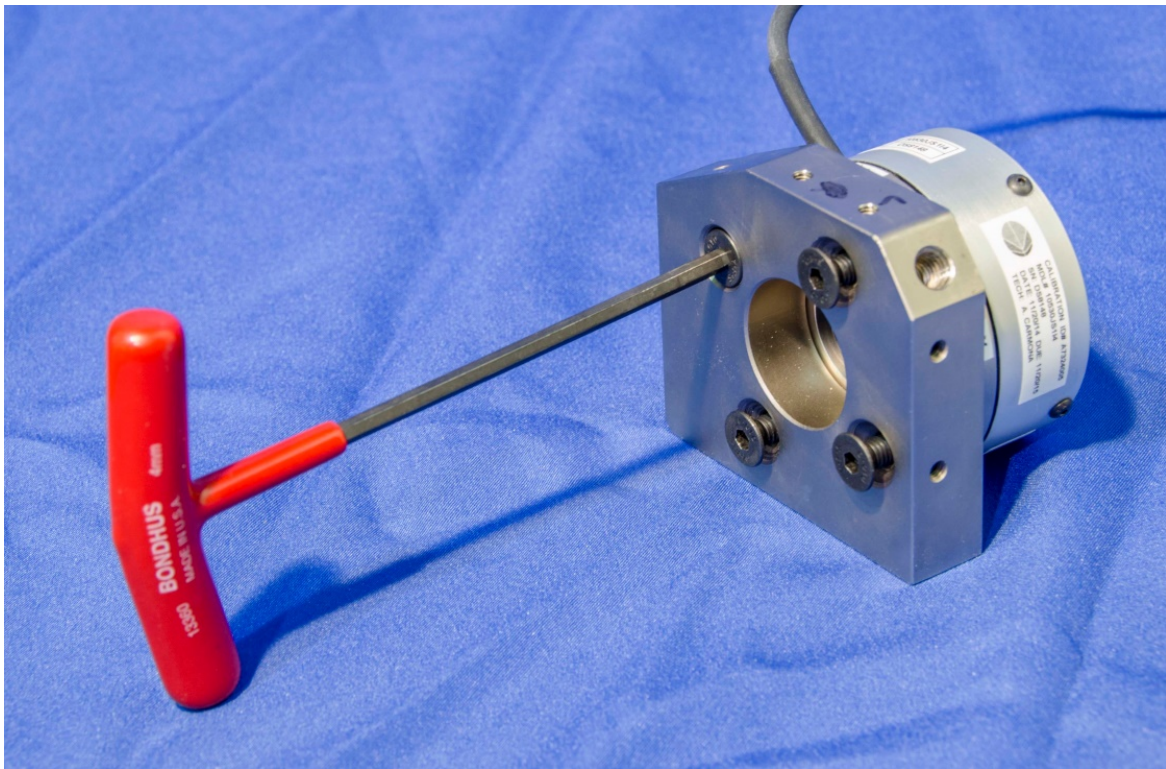
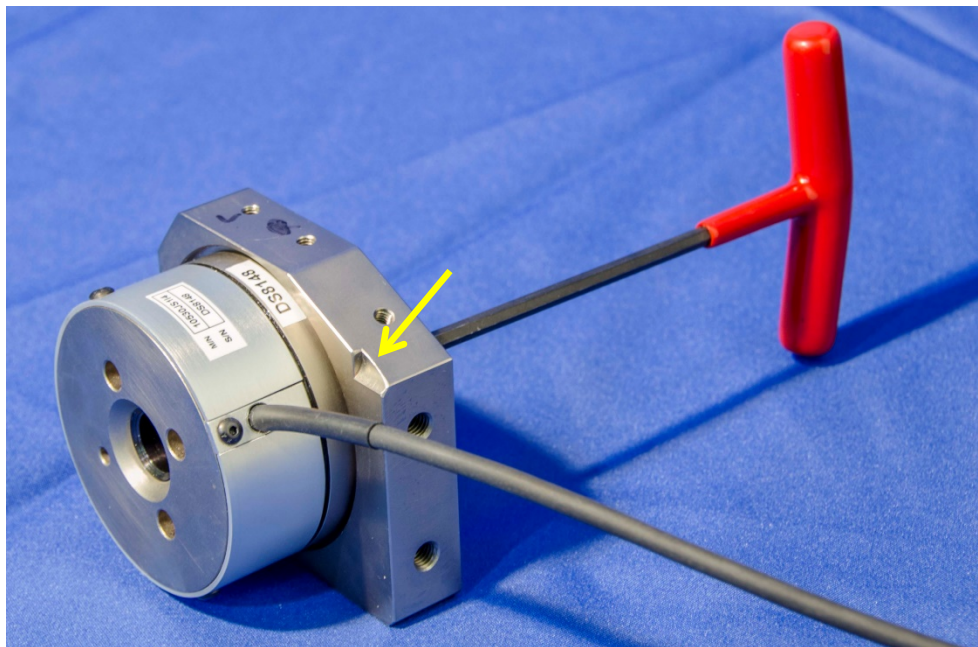

Figure 10-4. Attach load cell mounting plate to acetabulum load cell
Figure 10-5. Ensure proper orientation of acetabulum load cell
- 10.2.2.1 Attach the Left Load Cell Mounting Plate (472-4325-1) to the Left Acetabulum Load Cell (472-4390) using four M6 x 22 FHCS (Figure 10-4). Orient the load cell wiring to the mounting plate as shown in Figure 10-5.